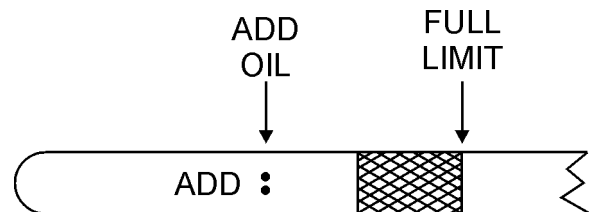

Figure 9. Oil Dipstick
3. If the oil level is low, add oil through the oil filler hole. **DO NOT** overfill. Fill to the normal operating level as shown on the dipstick. Verify that the oil level is maintained between the two notches as shown in Figure 9. Always fill with recommended type oil as listed in Table 4. See Table 2 for engine oil capacity.